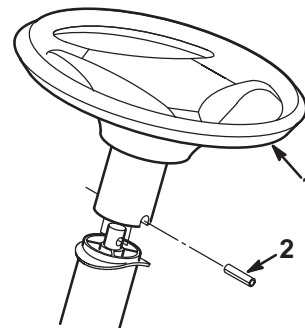

Figure 3
2. Slide the steering wheel over the steering shaft. Line up the hole in the steering wheel with the hole in the shaft (Fig. 3). From the seat you should be able to read the brand logo on the steering wheel.
4. Using a hammer, drive the spirol pin in until it is flush with the outside of the steering wheel (Fig. 3).